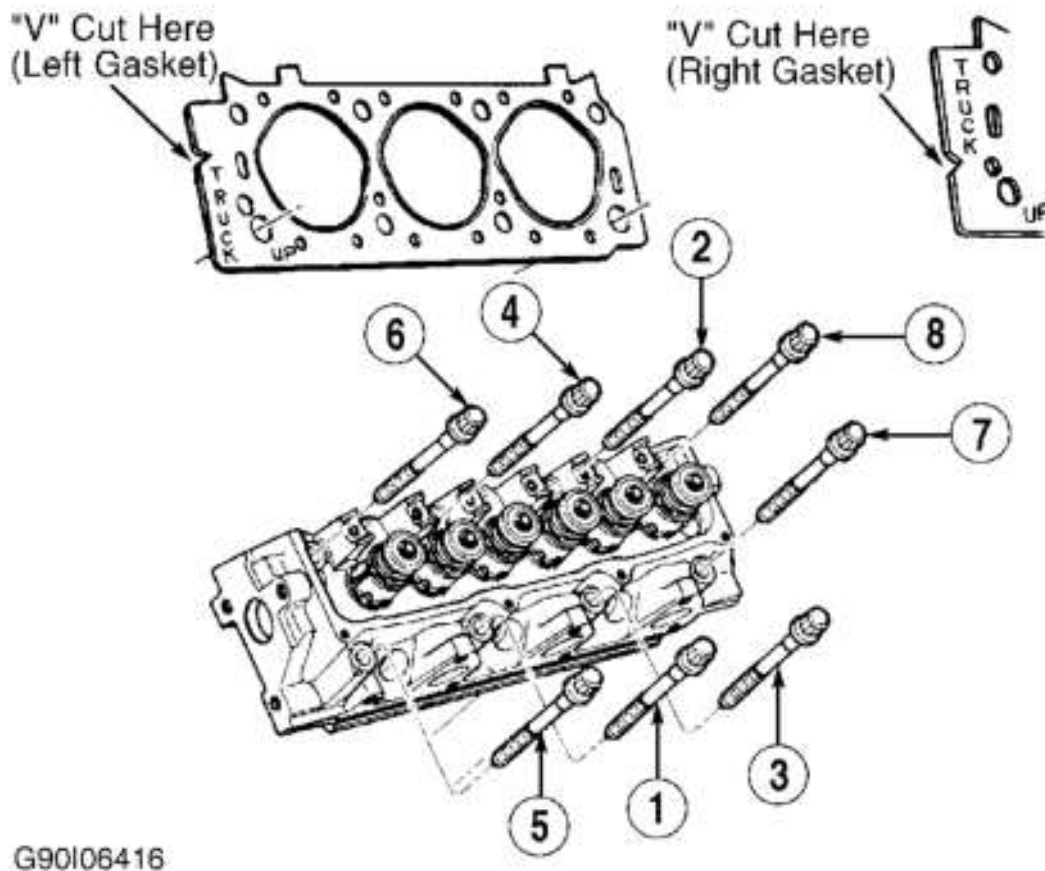

Fig. 5: Cylinder Head Gasket Position & Head Bolt Tightening Sequence
NOTE: "V" notch below TRUCK marking on gasket indicates right-hand head gasket. "V" notch above TRUCK marking on gasket indicates left-hand head gasket. See **Fig. 5**. Ensure UP mark on gasket faces upward.
2. Install cylinder head and new cylinder head bolts. Tighten cylinder head bolts in sequence to specification. See **Fig. 5**. See **TORQUE SPECIFICATIONS** table at end of article. Dip each push rod end in Oil Conditioner (D9AZ-19579-CA). Install push rods in their original location.